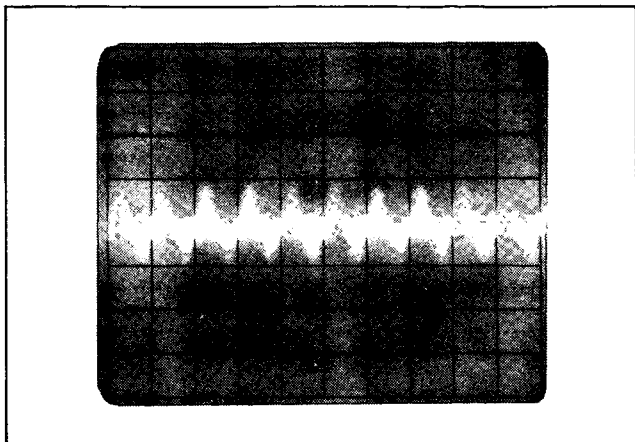

Figure 5-12A. DC/AC Balance Sine Adjustment
I. While continuing to observe the beam on the oscilloscope, adjust A1R542 (DC Bal) until the beam (which will continue to pulsate) remains centered around the x-axis graticule. (See Figure 5-12A.)*